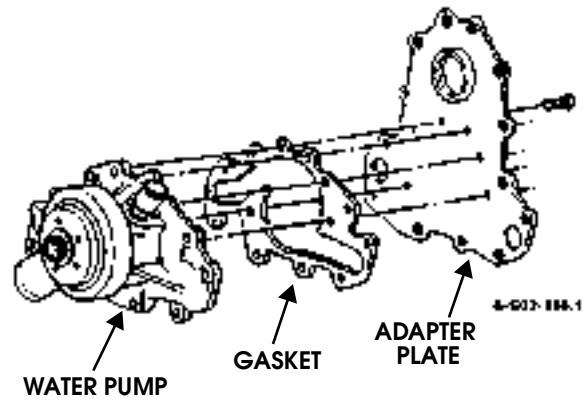

Figure 2-85: Water Pump, Adapter Plate, and Gasket Disassembly
3. Remove water pump, attaching bolts, and separate pump from adapter plate (Figure 2-85).